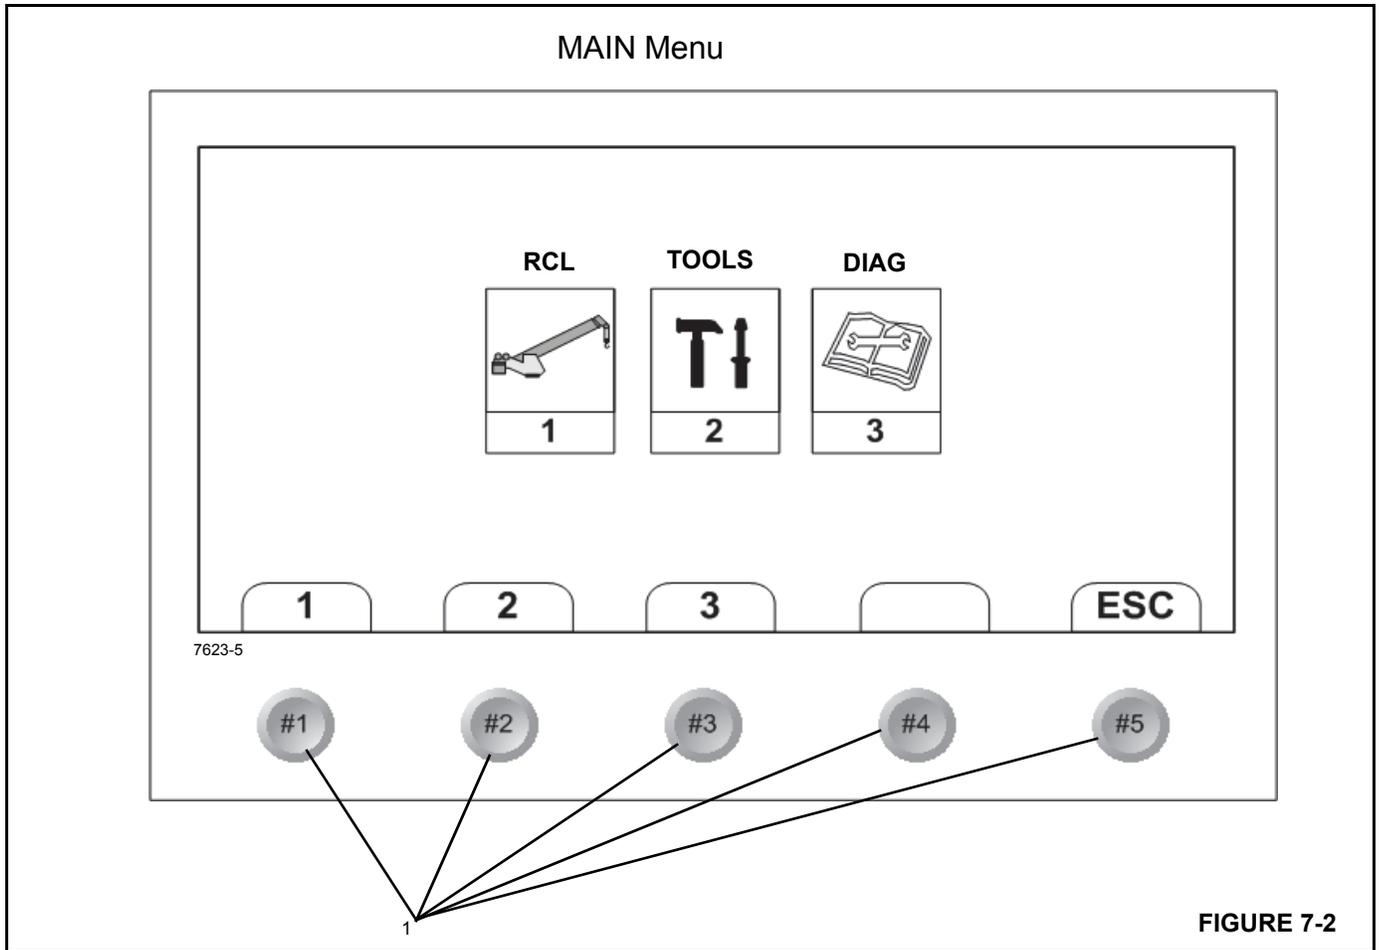

FIGURE 7-2
The MAIN Menu screen (Figure 7-2) is divided into the following three major sections which are used to set-up, operate, calibrate and troubleshoot the Rated Capacity Limiter system.
- **RCL Set-Up** - Select function key 1 (Figure 7-2) to configure the RCL system. This screen includes configuration and establishing operational limits for the boom, outrigger, hoist, reeving. The RCL Set-Up screen also includes the operating mode screen, see page 7-4.
- **Tools** - Select function key 2 (Figure 7-2) to access the tools screen, see page 7-13. This screen includes:
- **Diagnostic** - Select function key 3 (Figure 7-2) to access the RCL diagnostic menu, see page 7-18. This menu includes:
The Main Menu screen has five *function keys* (1, Figure 7-2) that are used to select the functions shown on the display screen above each key.
NOTE: On start up of the RCL, the National Crane logo screen will appear for approximately 5-10 seconds then Screen #1 (page 7-6) appears, to return to the Main Menu screen (Figure 7-2) select ESC.
Select the RCL setup icon on the main menu to begin RCL setup (Figure 7-2).